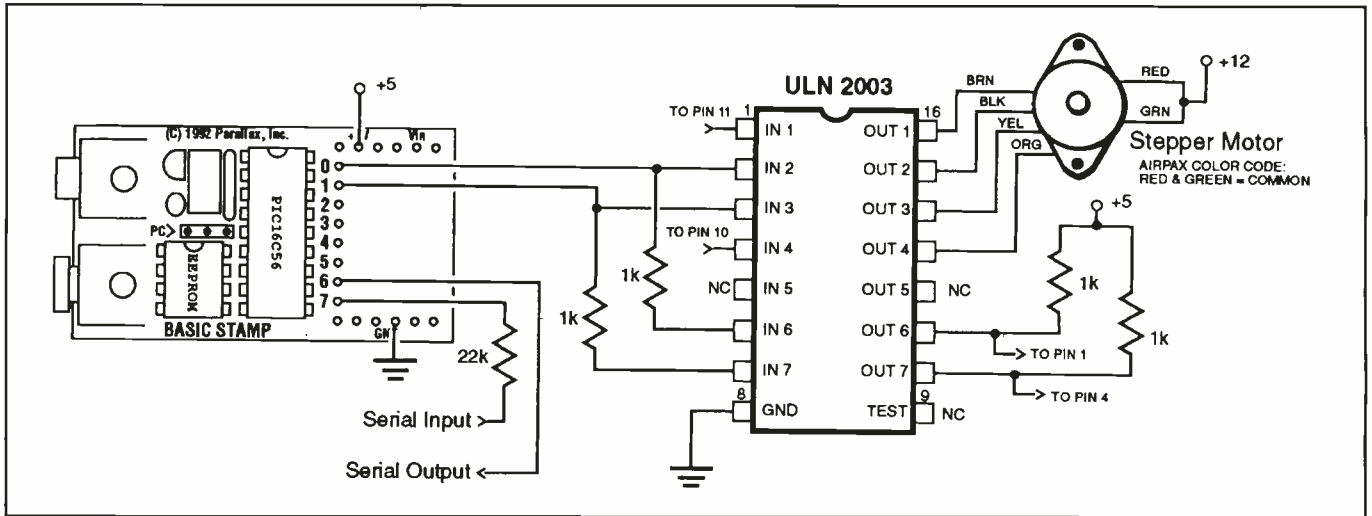

Fig. 4. In this circuit, the Stamp controls a stepper motor under command of a remote PC.
- **LCD Data Terminal.** Many household and industrial control applications use a central computer system to orchestrate operation of many smaller data-gathering and display terminals. Figure 4 shows the Stamp in such a role. It receives data from a serial host, displays it on an LCD panel and reports switch closures to the host. Listing 2 is the BASIC program for this application. An interesting feature of this application is the direct multiplexing of the LCD module and input switches, which exploits the Stamp's ability to change I/O directions on-the-fly.